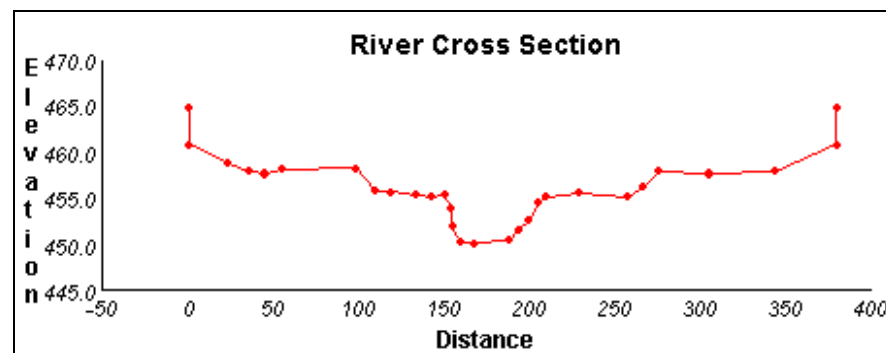

Figure 15-1 The *xsec* cross section data.
3. Click the *OK* button to update the plot, as shown in Figure 15-1.